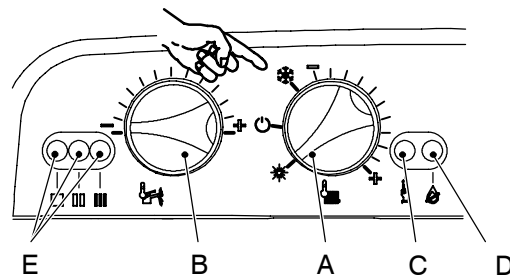
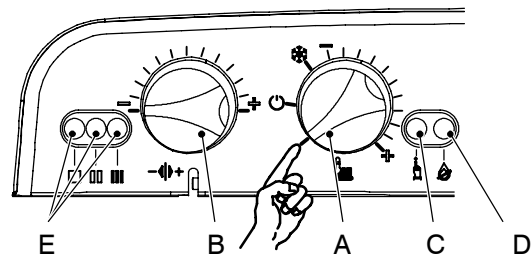

Fig. 42
Fig. 43
- 4 Turn the boiler ON positioning the function selector knob A as indicated in Fig. 42 (M96.24SM/..., M96.28SM/..., M96.32SM/...) or Fig. 43 (M96.28SR/...,). and ensure that the timer selector switch and room thermostat, if fitted, are set to "heat demand".